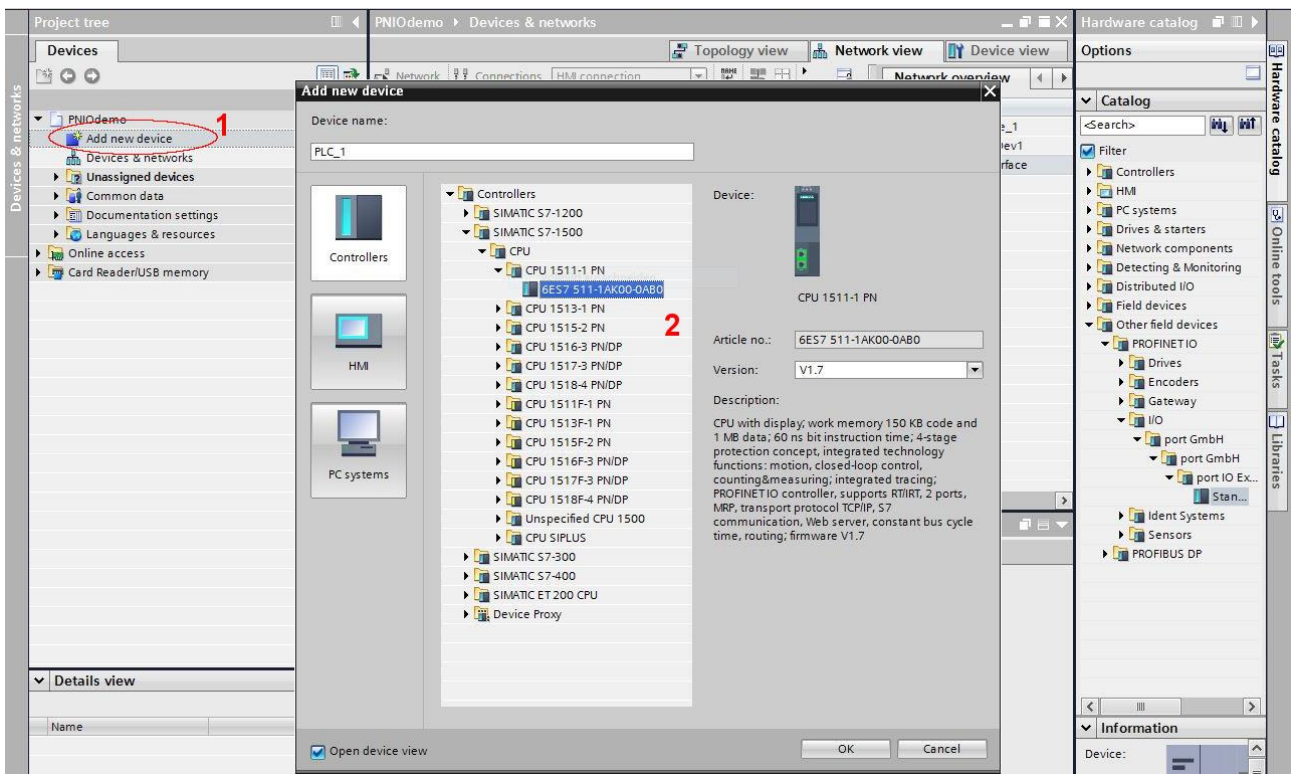

Figure 4-3: Add the PLC to the project
6. Add the PLC to the project (Figure 4-3).